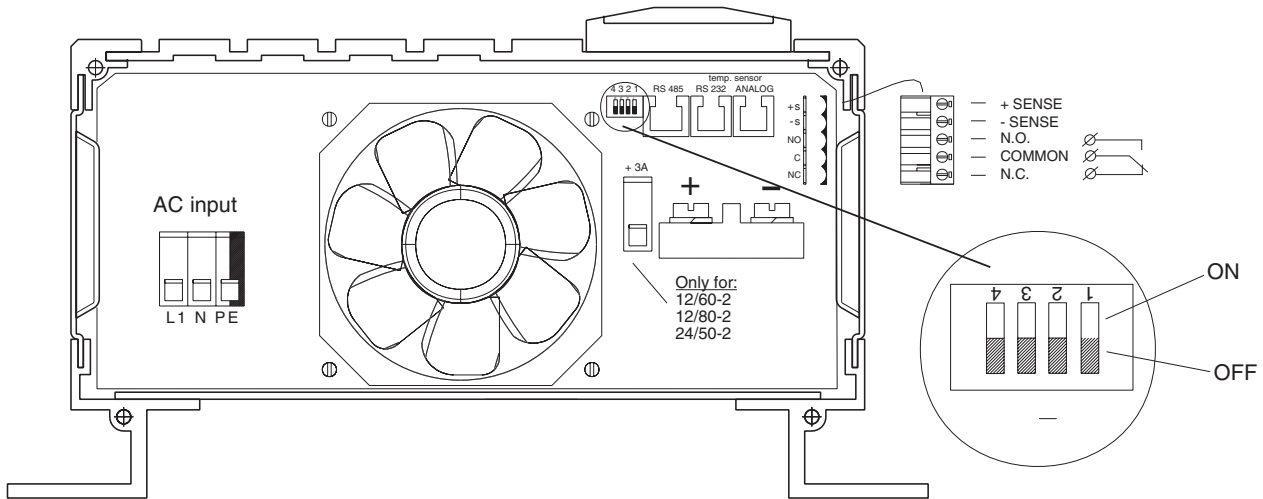

Fig. 2: Connections encl. 2.
- 3 Compensate the voltage drop over the battery isolator by changing the setting of dip switch 4 (see fig. 2 and 3). Not necessary when using the voltage sense function.
- Connect the plus of the second battery to the +3A terminal of the charger (see fig. 2 and 3).
The standard temperature sensor is provided with 6 mtr cable and a double-sided tape for easy installation. Determine the warmest place on the battery set and make it clean and grease free. Remove the piece of paper from the tape and stick the sensor on the battery. Plug the 6-way cable into one of the two terminals at the right of the charger (see fig. 2 & 3). It does not matter which one, both "RS232" and "analog" are suitable. It is not necessary to shorten the cable. When you want to shorten it anyway please notice the polarity of the plug and use the old connector as an example.
Connect the wires with the two upper terminals of the green connector at the right side of the cabinet (see fig. 2 & 3). Pay good attention to the polarity of the wires, red on +S and black on -S. Now connect the other side of the wires: black on the minus of the battery and red on the battery side of the charger fuse. (See appendix C for installation examples).
The factory settings of the charge program is optimal for most installations. But in some special applications it is desirable to change the charge program. In order to change the charge parameters the charger is equipped with four tiny switches called DIP switches, see fig. 2 & 3 for the location and the set point information.
For special applications a fixed charge voltage can be required. The battery charger allows you to change the 3-stage charge program to a single stage program by activating the function "ForcFloat" switching DIP switch 1 to "ON" (see fig. 2 & 3 for further information).
Some gel batteries need a higher float voltage for optimal charge. Changing the float voltage can be done by setting DIP switch 3 to "ON". The float voltage will increase to 13.8V (12V charger), 27.6V (24V charger) or 55.2V for a 48V charger (see fig. 2 & 3 for further information).